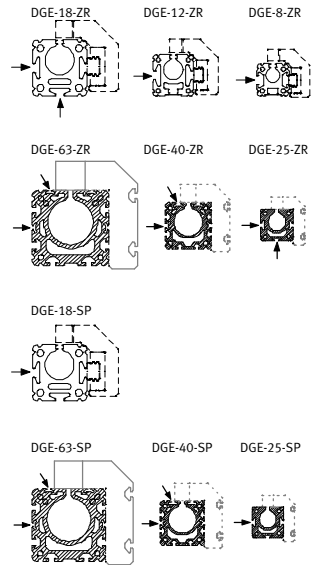

Fig. 28
- Use the grooves in accordance with Fig. 28.